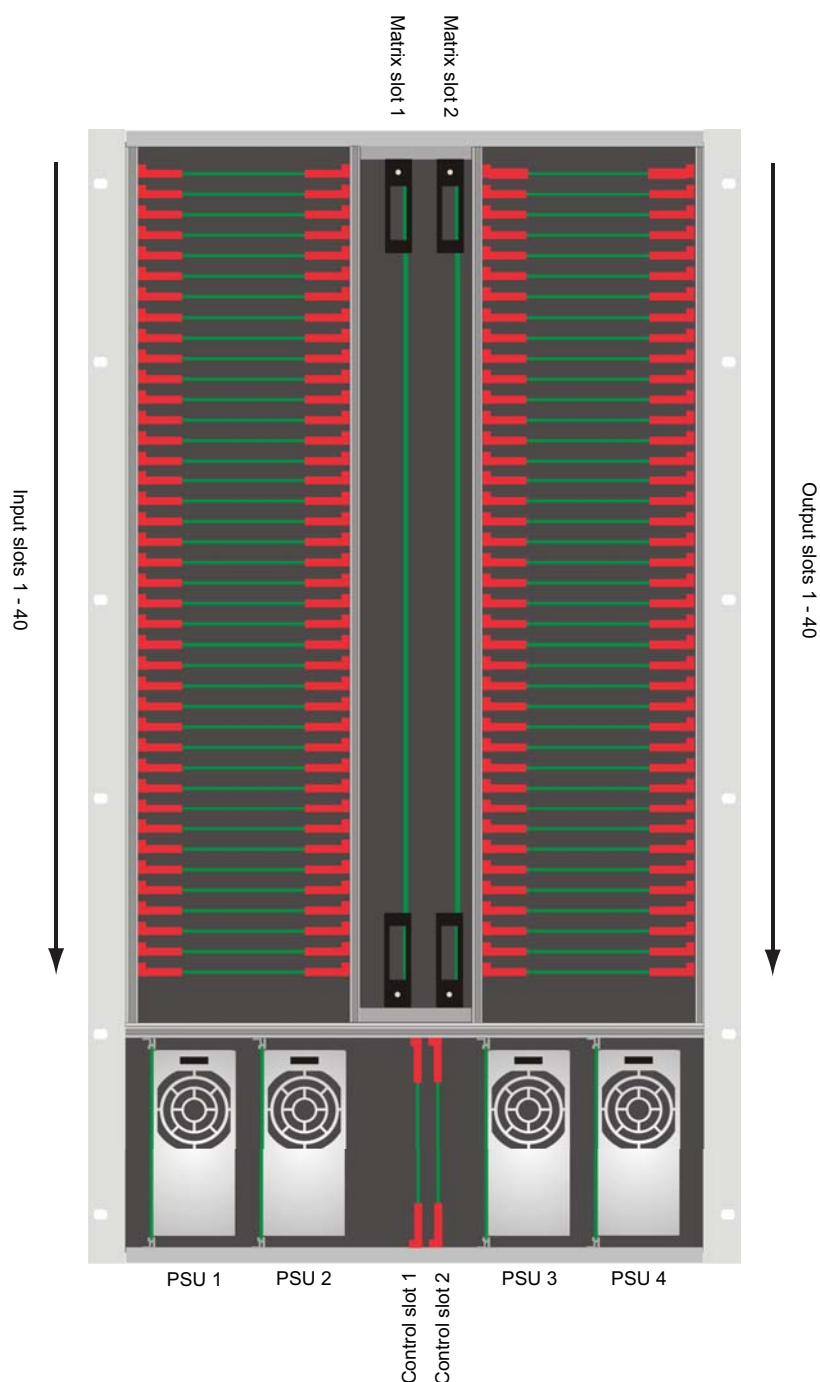

Figure 3.4 Slot Positions in the Frame
3. Locate an available slot position in the frame (see **Figure 3.4**).